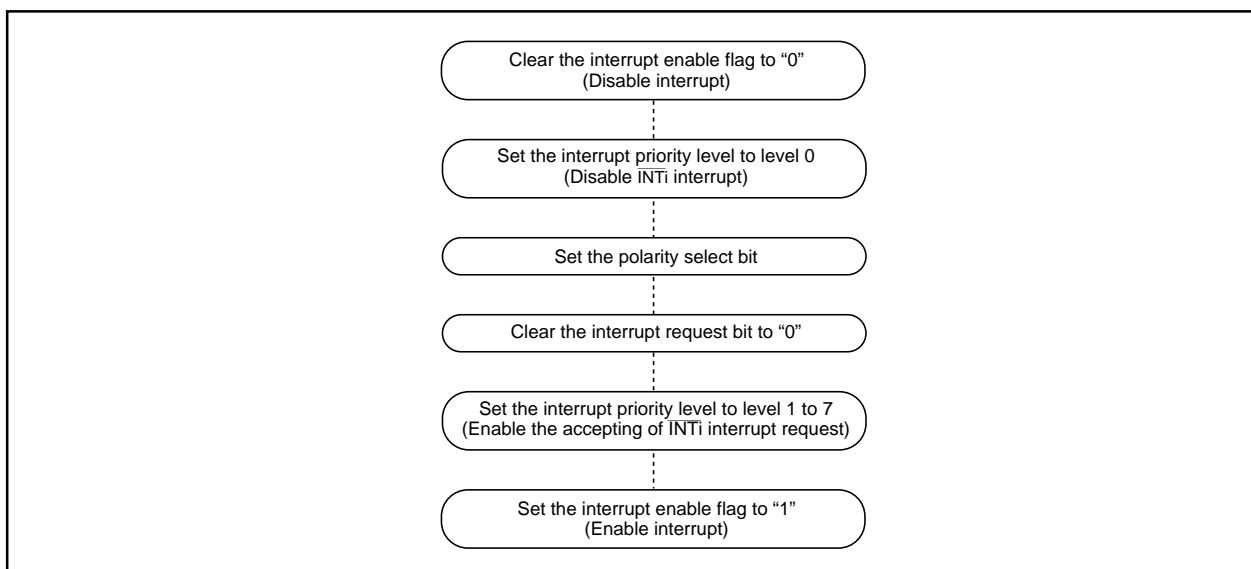

Figure 2.7.14 Switching condition of INT interrupt request
(2) Setting the stack pointer
(3) External interrupt
- When the polarity of the $\overline{\text{INT0}}$ and $\overline{\text{INT1}}$ pins is changed, the interrupt request bit is sometimes set to "1". After changing the polarity, set the interrupt request bit to "0". Figure 2.7.14 shows the procedure for changing the $\overline{\text{INT}}$ interrupt generate factor.